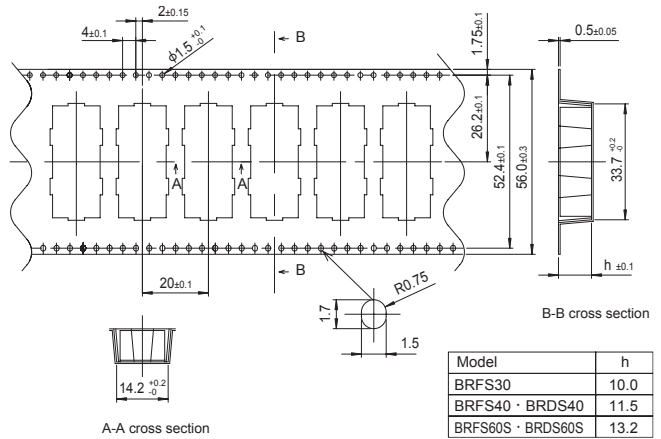

Fig.9.1 Taping dimensions of BRFS30/40/60S · BRDS40/60S
■ Please refer to a Fig.9.1 to Fig.9.4 for Package form (Reel).